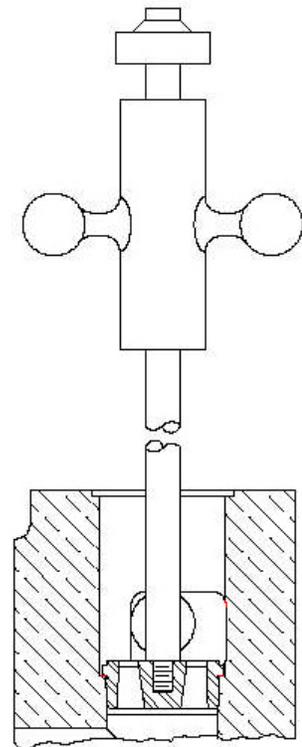

Figure 19
- d. Screw valve-pulling tool into seat and tighten firmly. (NOTE: The threaded extension is a special, high-strength, full-threaded screw). Jar seat loose and remove. (Figure 19).